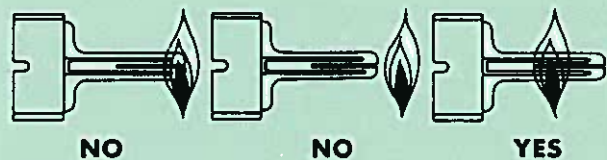

Figure 3: Hot Surface Element Location
Proper location of the hot surface element is important to achieve optimum system performance for both ignition and flame sensing. See Figure 3.
1. Check installation. Mount and position hot surface element per Figure 3.
7. If system ignites but fails to "hold-in", check for proper grounding. Also check element position per Figure 3.